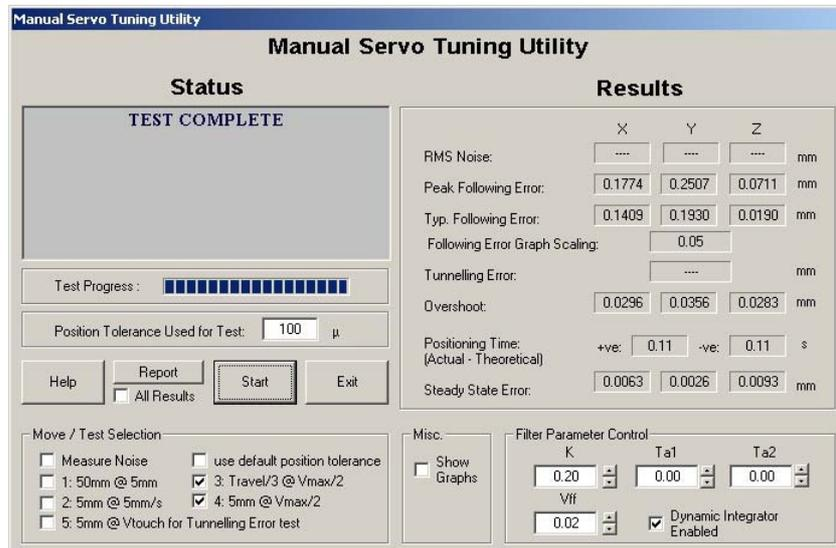

Figure 19
5. Increasing  $V_{ff}$  further will reduce following error, however if too much is applied overshoot will increase to excessive levels and the machine may become unstable whilst performing the point to point moves. Some experimentation in the  $V_{ff}$  value will be required. Figure 19 below shows the effect of applying too much  $V_{ff}$ . Although the following error has reduced to a low value the amount of overshoot has increased significantly.